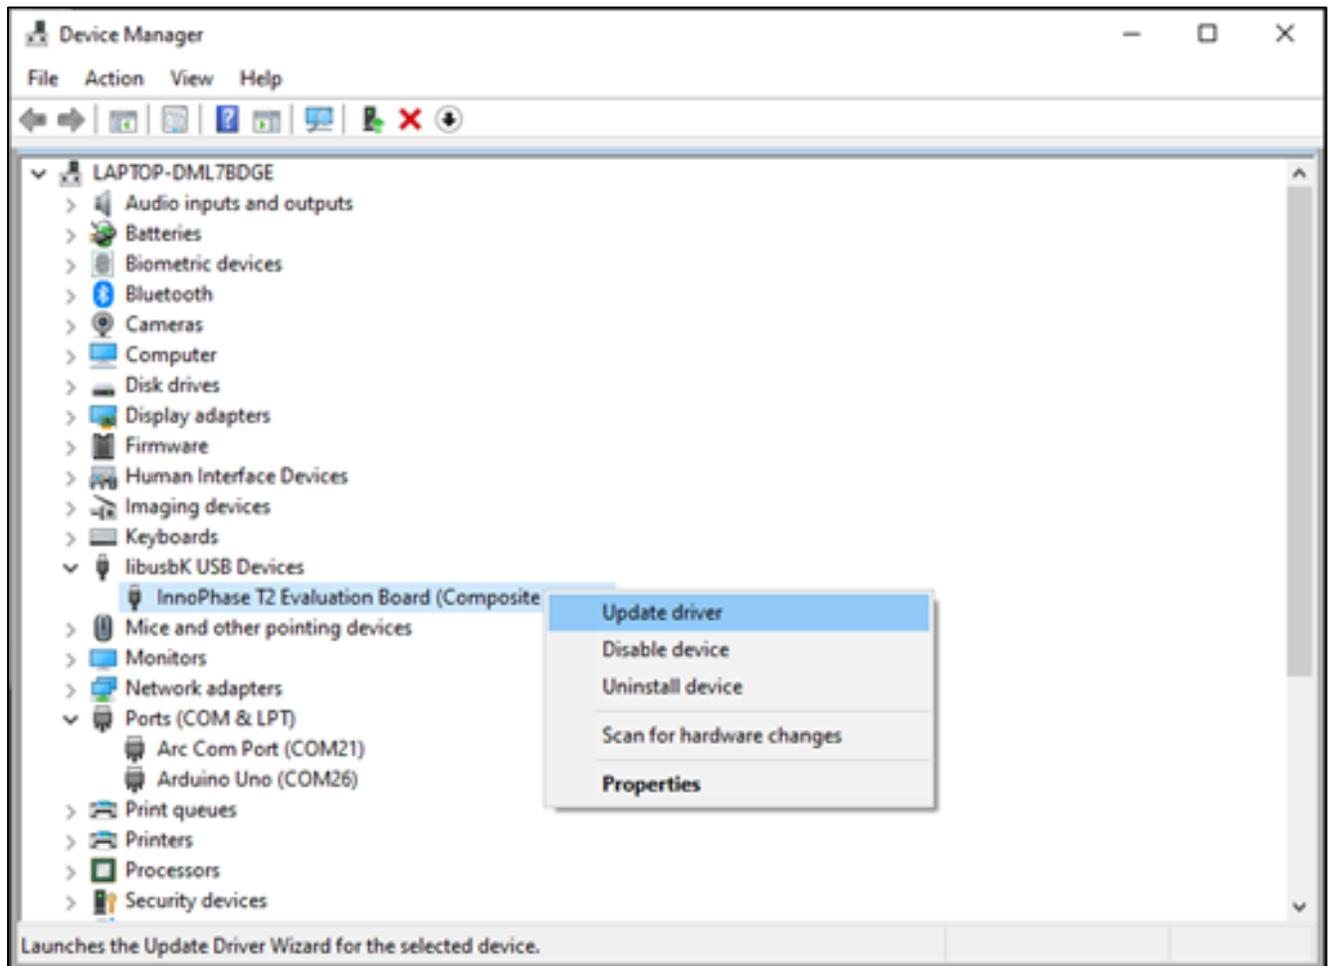

Figure 22: Device Manager
1. Go to Device Manager. Expand the libusbK USB Devices and right click on the InnoPhase T2 Evaluation Board (Composite Parent). Click on Update Driver as shown in Figure 22.